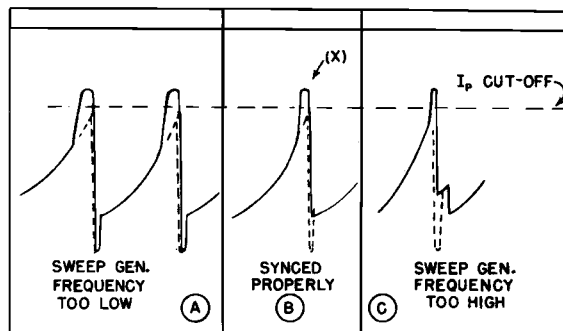
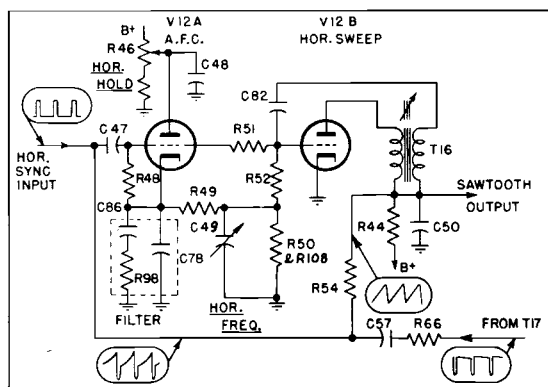

Fig. 7. A.F.C. Waveshapes
Fig. 6. Horizontal Sweep and A.F.C. Sync
5. HORIZONTAL SWEEP GENERATOR AND AFC SYNC (SEE FIGURE 6).
The tube V12A obtains its operating bias through its connection to the grid circuit of the blocking oscillator tube, V12B, through resistor R51. The blocking oscillator produces a large negative bias in its grid circuit during its normal operating cycle. When the horizontal sync pulses or the combined output voltage (shown at lower left of Figure 6) are impressed separately on the grid of V12A, they do not have sufficient positive amplitude to cause appreciable plate current flow in tube V12A. However, if they are combined and phased properly as shown in Figure 7A, 7B, or 7C, their composite amplitude is sufficient to cause plate current flow during that portion of the cycle where the waveshape is above the dash line axis in Figure 7. During the time that conduction takes place, the capacitors C86 and C78 become charged positive in respect to ground, the magnitude of the charge and the resultant voltage thereon being dependent upon the duration of the flow of current in tube V12A. Since the resistor R50 is in the bleeder circuit across the filter and also forms a part of the grid return circuit for the sweep generator tube V12B, any change in voltage across R50 will result in a change of frequency in the horizontal sweep generator. Thus, if the contributing voltage of R50 makes the grid of V12B less negative, the frequency will be raised; likewise, if the contributing voltages make the grid of
Referring to Figure 7, the B curve shows a sync pulse phased so that about 50 per cent of the pulse width is riding on top of the integrated sawtooth, while the remainder of the pulse after point (X) falls down into the trough, making the conducting portion have a width which is average between curves represented by (A) and (C). If each successive sync pulse falls in the same phase relation as shown in curve (B), the Horizontal Hold Control which controls the amount of current flow through V12A is set so that this phase relation does not change. This would cause the sweep generator V12B to run at the same frequency as that of the transmitted signal. Under this condition, if the sweep generator tends to run slower than the incoming sync signal, the conduction period will be made longer through tube V12A because the pulse will move forward in relation to the integrated sawtooth wave with a result as shown in Figure 7(A). It will be noted that the conduction pulse is of greater duration (wider) than in curve (B). Therefore, tube V12A will conduct for a greater period of time, thus raising the positive potential across R50. This greater conduction period causes the sweep generator to speed up until it attains the condition in B. Likewise, if the sweep generator is operating at too high a frequency, the pulse will advance along the integrated sawtooth wave until a large portion of it falls down into the trough of the waveshape, as shown in Figure 7(C), with the resultant shortening (narrowing) of the conducting pulse. This causes the frequency of the sweep generator to be reduced until the condition in Figure 7(B) is again restored.